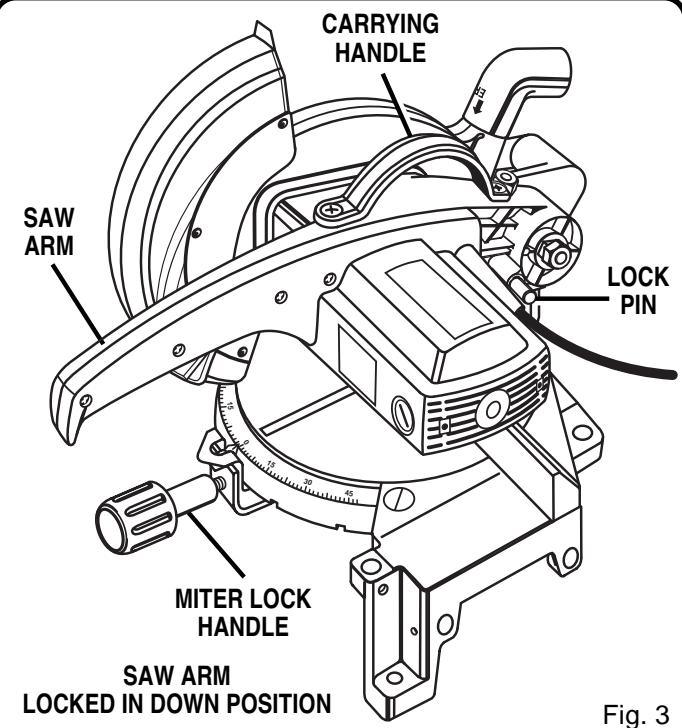

Fig. 3
- Your saw has been shipped with the saw arm locked in the down position. To release saw arm, push down on top of saw arm and pull out the lock pin. *See Figure 3.*
See Figure 3.
For convenience when carrying or transporting your miter saw from one place to another, a carrying handle has been provided on top of the saw arm as shown in figure 3. To transport, turn off and unplug your saw, then lower the saw arm and lock it in the down position. Lock saw arm by depressing the lock pin. Tighten the miter lock handle. Remove the saw from the workbench or workstand. It is now ready to transport.